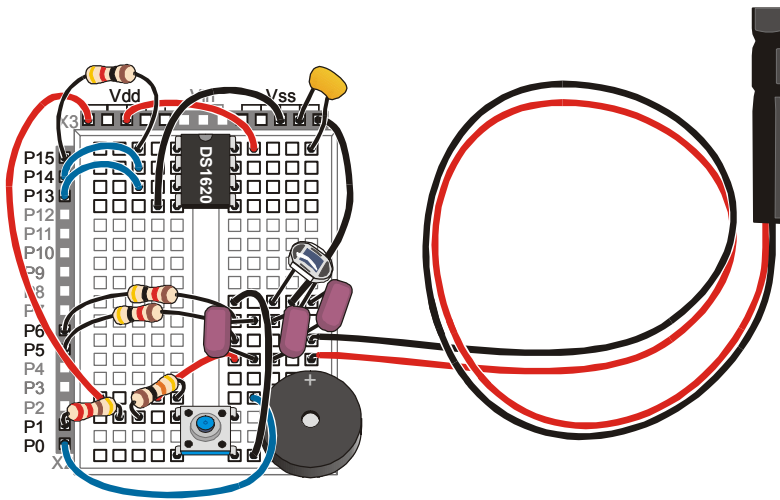

Figure 4-9
- ✓ Install it on your breadboard in parallel with the first one, as shown in Figure 4-9.